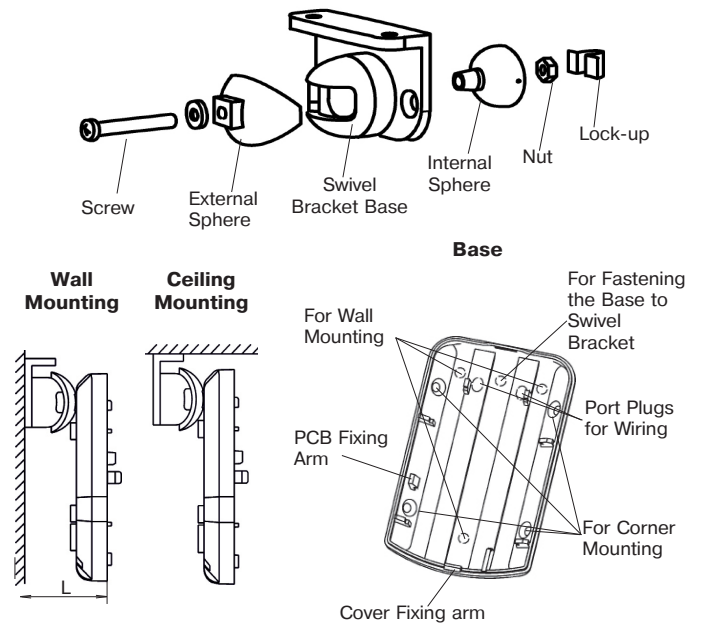

Figure 2 – The Detector Base and Swivel Bracket
Unfasten the latch at the underside of the detector case by means of screwdriver and remove the detector cover (Figure 2).
- Drill holes in the detector base (Figure 2) for wires installation and for the detector fastening.